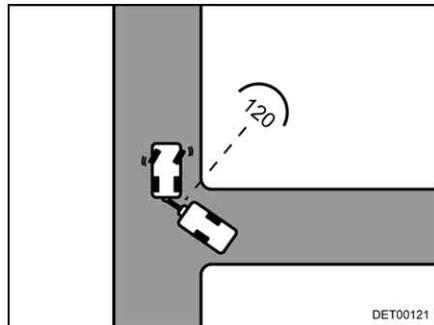

Fig. 20 Approach
- As soon as both vehicles are at an approximate angle of 120° to each other, come to a stop (Fig. 20).